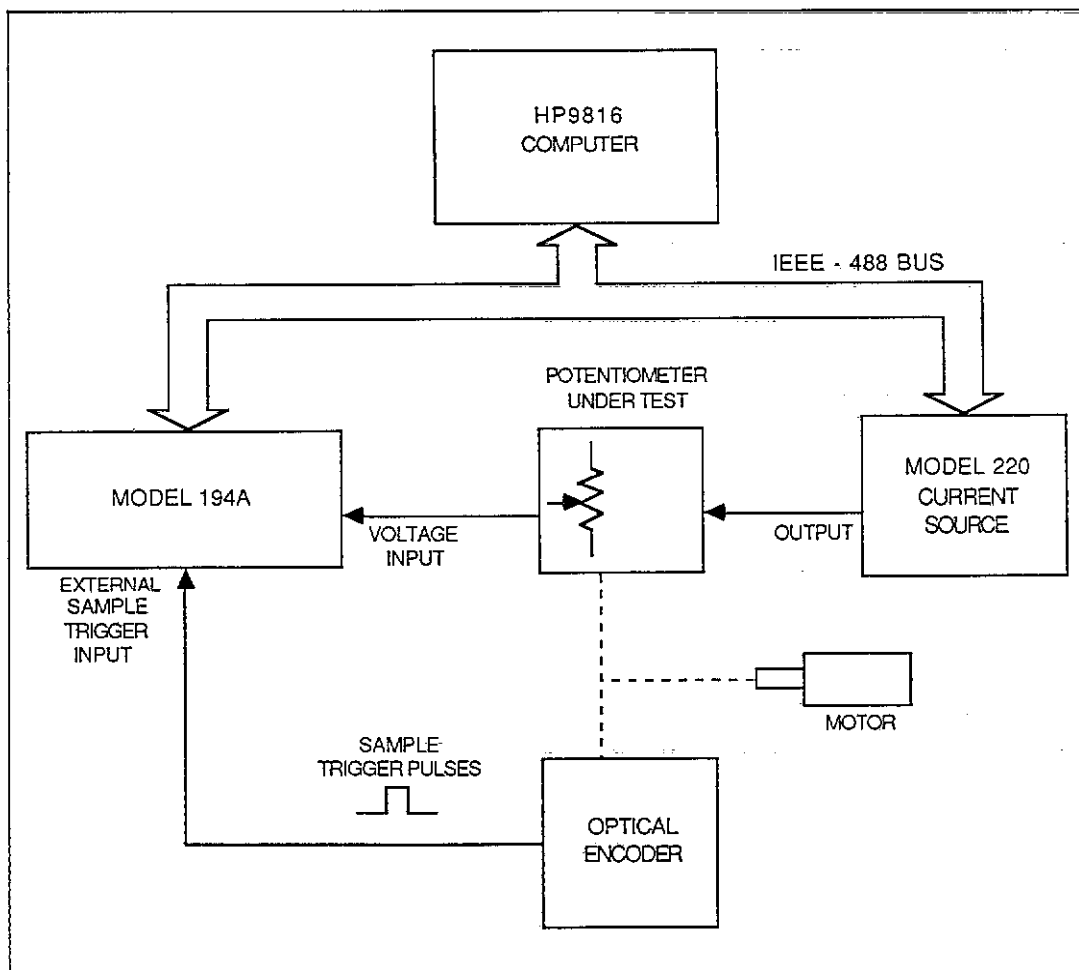

Figure 17. Potentiometer Test Configuration (Set up for Program 9)
One possible external sample trigger application involves testing for potentiometer linearity using the basic setup shown in Figure 17. In addition to the Model 194A, additional equipment is necessary: (1) a Model 220 current source, and (2) an optical encoder. The Model 220 sources current through the potentiometer, developing a voltage to be measured by the Model 194A. The optical encoder develops the sample trigger pulses necessary to trigger individual samples.